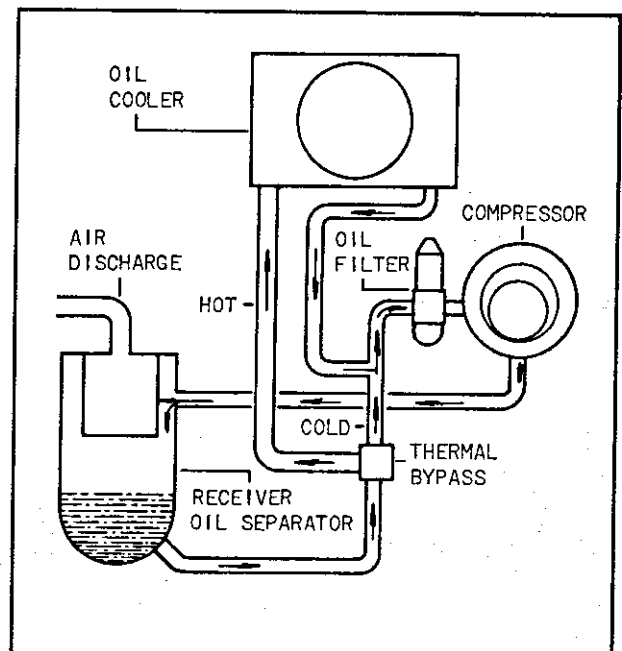

Figure 1-2. Oil Cycle Schematic Diagram
b. OIL CYCLE. (See figure 1-2.) After oil is separated from the compressed air, it accumulates